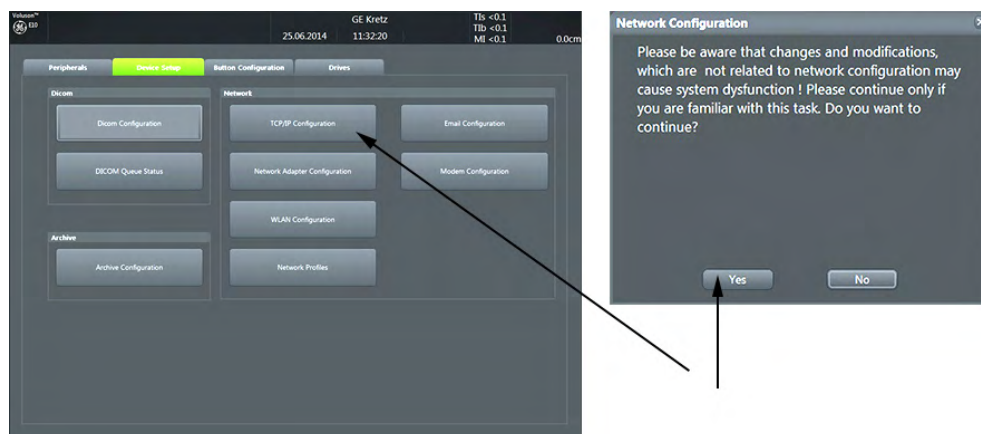

Figure 3-44 Configuration
5. Click the **WLAN Configuration** button; see Figure 3-44 on page 3-58.
3. Click the **WLAN Configuration** button; see Figure 3-44 on page 3-58.